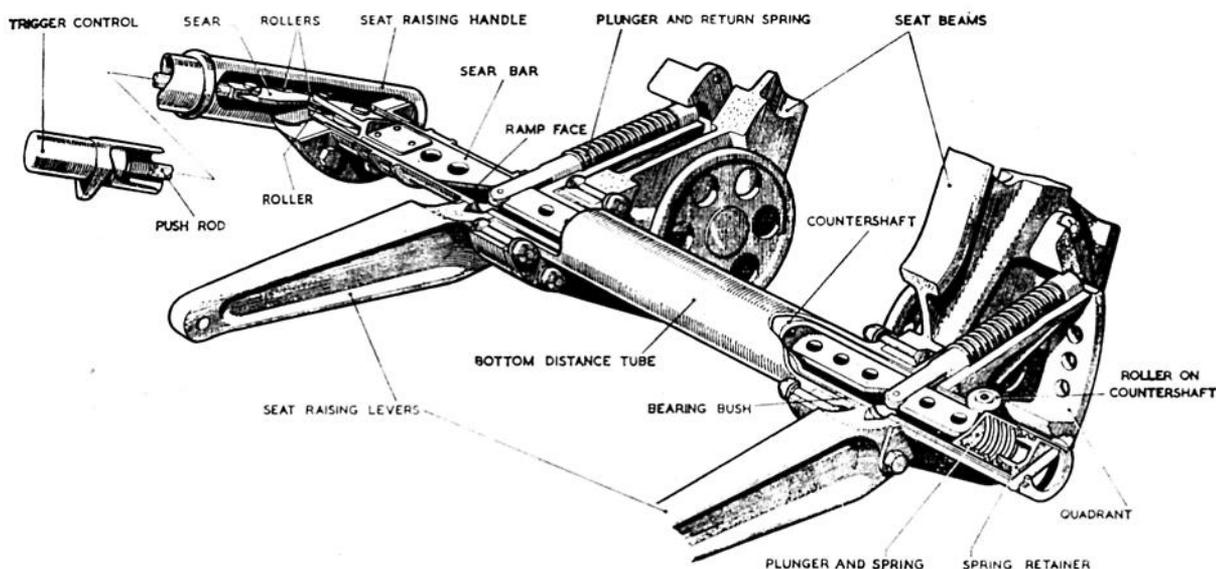

Fig. 2. Dismantling seat raising mechanism
5. (1) Remove the 2 B.A. lock-nut and tap out the taper pin from the port end of the countershaft. Remove the roller from the countershaft fitting (fig. 2). Do not remove the $\frac{1}{4}$ in. B.S.F. bolts from the faces of the seat raising lever bosses.